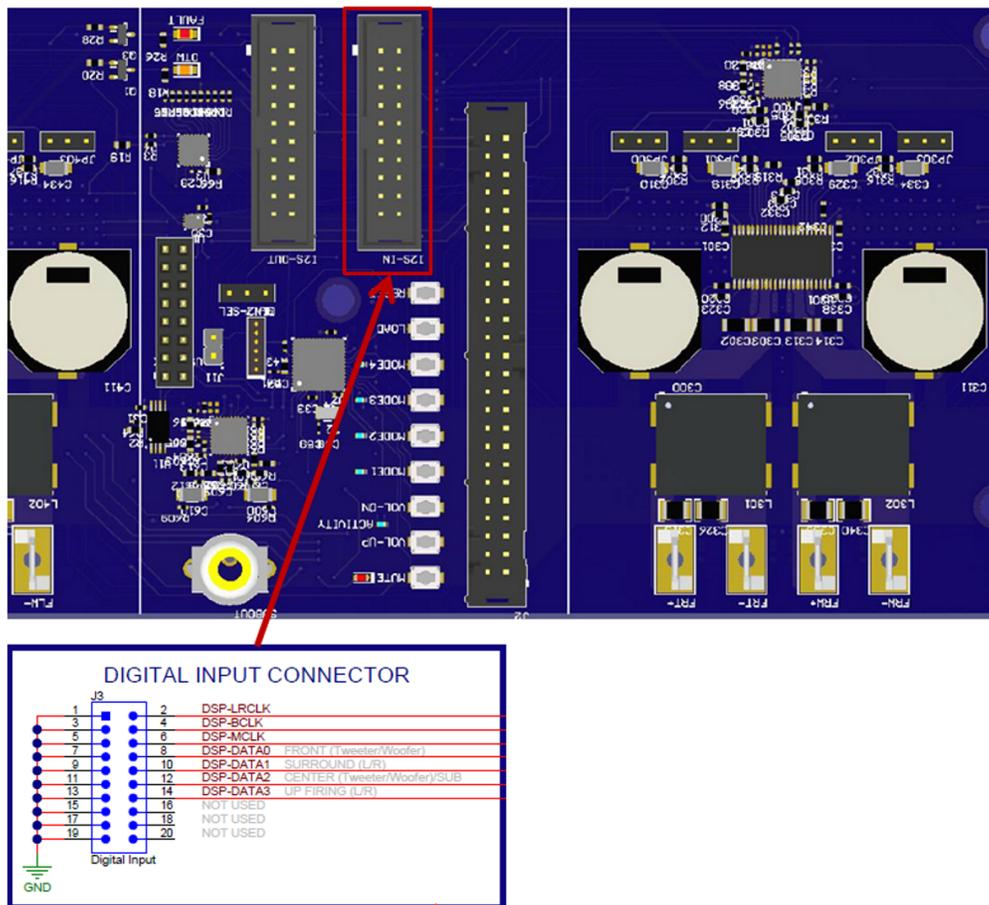

Figure 10. DSP Hookup
- a. Connect the DSP to the amplifier PCB using the digital input connector labeled I2S-IN on the amplifier PCB (see Figure 10).